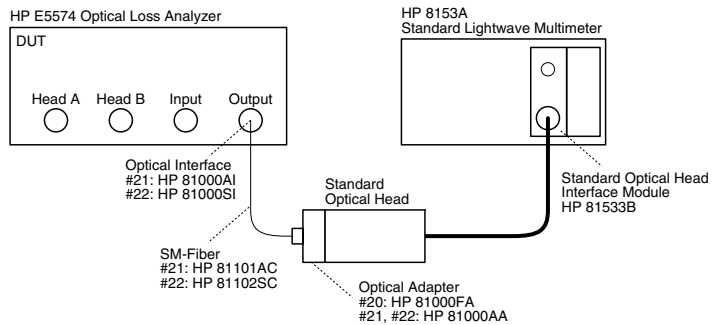

Figure D-2 Output Power Test Setup
- a** Connect the equipment as shown in Figure D-2.